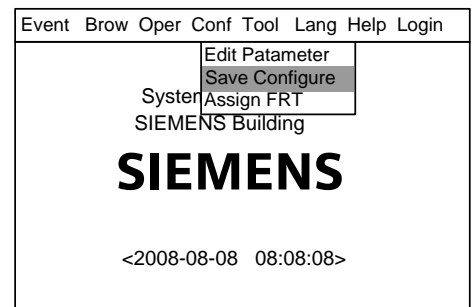
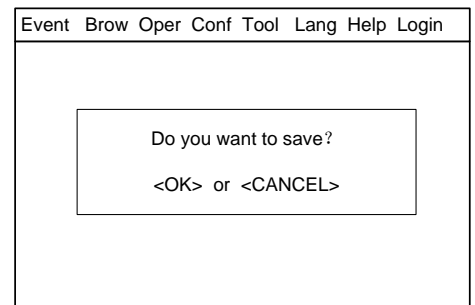

Fig.22-2
Fig.22-3
6. After the change, press "Menu" and press "↓" to select "Confirm", then press "OK" to save the change and quit. A dialog box will pop out to remind you to save the change (Fig. 22-3). Press "OK" to save the change permanently or press "C" to save the change temporarily. (The change will be lost if the system is restarted.)
2. Press "→" to pop out the "Conf" submenu (Fig.22-2). Press "↓" to select "Save Configure" and press "OK" to display the configuration saving window (Fig.22-3). Press "OK" to save the changes.
5. After the change, press "Menu" and press "↓" to select "Confirm", then press "OK" to save the change and quit. A dialog box will pop out to remind you to save the change (Fig. 22-3). Press "OK" to save the change for permanence or press "C" to save the change temporarily. (The change will be lost if the system is restarted.)
5. A dialog box will pop out to remind you to save the change (Fig. 22-3) after you quit the edit window. Press "OK" to save the change permanently or press "C" to save the change temporarily. (The change will be lost if the system is restarted.)